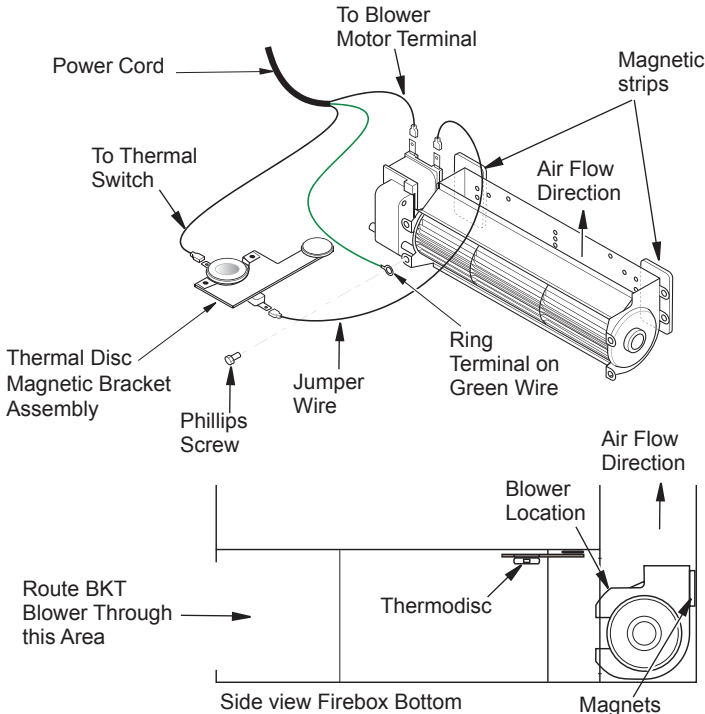

Figure 6: Blower Model BKT
1. Attach green ground wire from power cord to blower housing using screw provided (see Figure 6) Tighten screws securely with a Phillips screwdriver.
3. Place the blower against the lower rear wall of the firebox outer wrapper with the exhaust port directed upward. Attach Thermal disc magnetic bracket to the bottom of the firebox sub-floor. The thermodisc must be oriented near the fireplace bottom as shown in Figure 6, in order to sense temperature and properly operate. The blower will be held in position against the back wall by the magnets incorporated onto the blower housing (see Figure 6).